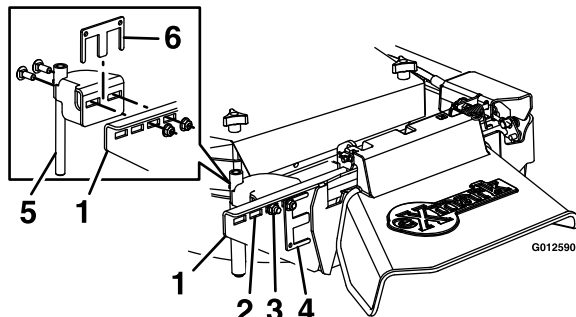

Figure 6
- If the front pin does not engage in the slot in the deck, loosen or completely remove the hardware in the gate link frame as shown in Figure 6. Position the gate link frame so that the front pin aligns with the slot. Reinstall hardware, if removed, and tighten. Pivot the assembly towards the deck and engage the front pin into the slot.
- Install the shim between the gate link frame and the pivot mount assembly. Position the center tab of the shim between the two mounting bolts as shown in Figure 6.